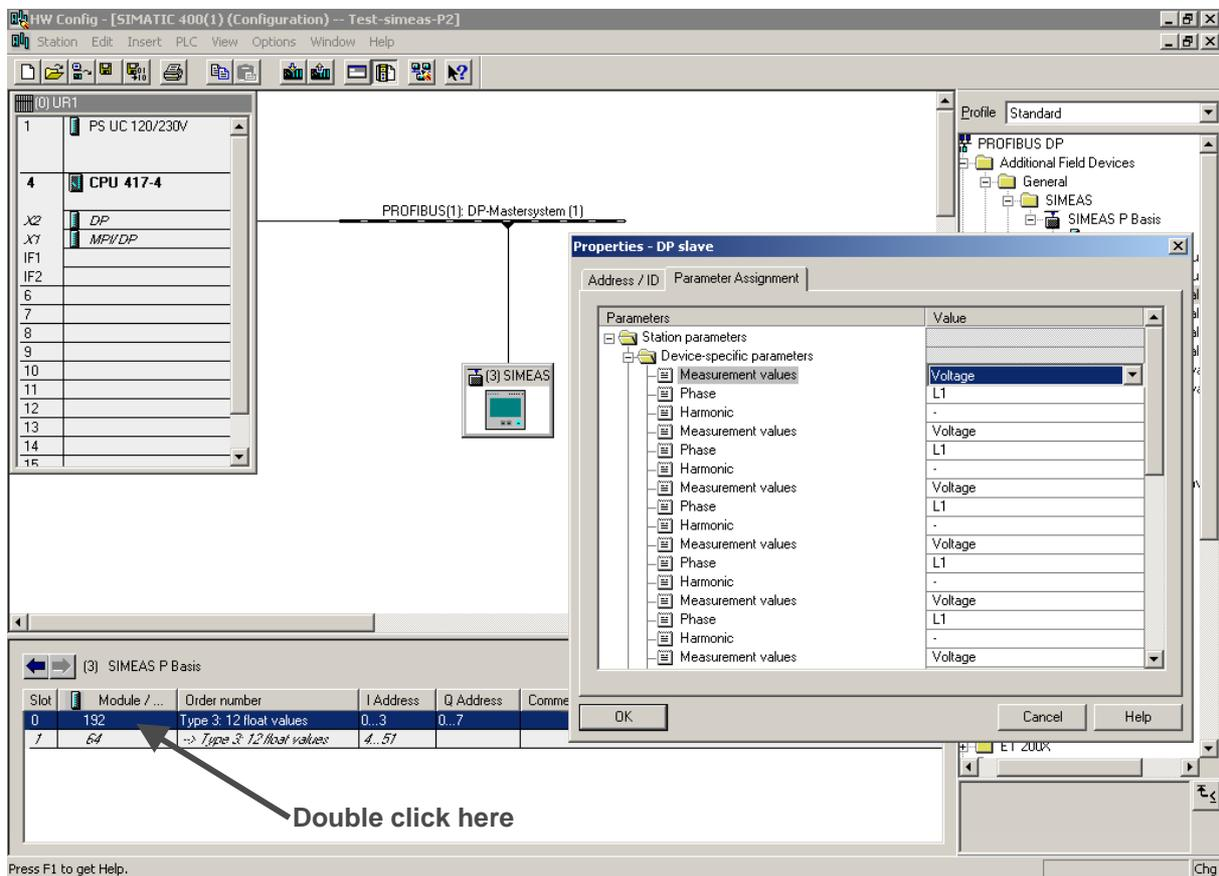

figure 4: DP-slave setting
5. Configure the settings of the DP-slave (see: figure 4: DP-slave setting):